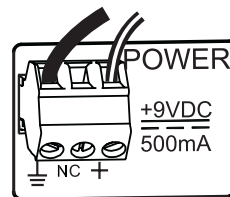

FIG. 3 Power connector
2. Loosen the two outer screws and insert the power cable wires (FIG. 3).